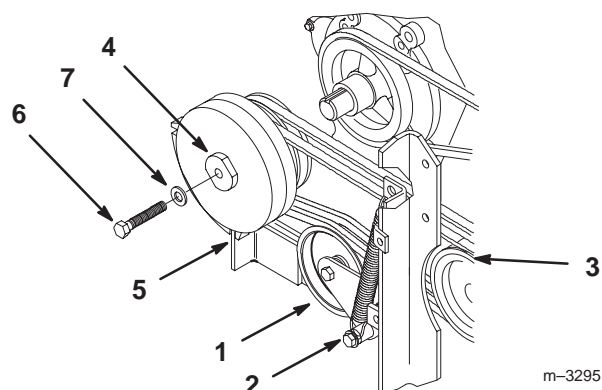

Figure 30
1. Hold spring loaded idler against belts and pull spring down to remove from lower bolt mount (Fig. 30).
2. Lower idler to relax tension on belts and remove belts from gear box pulley (Fig. 30).
3. Hold flats on clutch hub and remove clutch mounting bolt and washer. Slide clutch off crankshaft and lower through frame (Fig. 30).
9. Hold spring loaded idler against belts and pull spring down to install on lower bolt mount (Fig. 30).